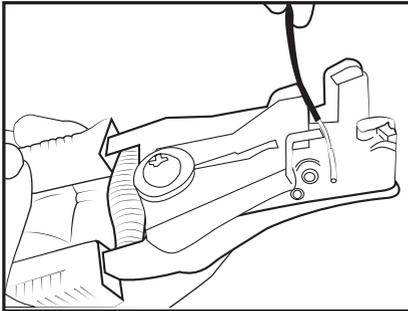

Fig. 19
- Use a wire stripper to remove 10 to 15 mm insulation from each end of the boundary wire (19). Twist the exposed threads tightly (Fig. 19 and 20).